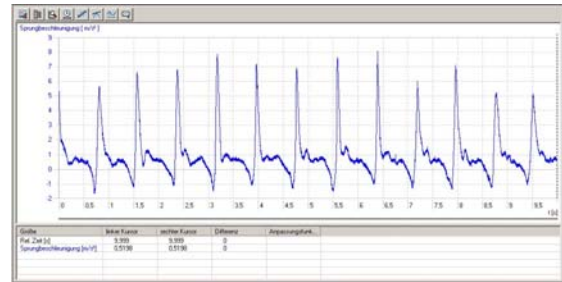

Fig. 1 Typical acceleration behaviour at the ankle of a skipping person, recorded with the 3B NETlab™ (U11310)
- Simultaneously start the recording of an experimental data curve in 3B NETlab™ (Fig. 1).
In Figure 1 it can be seen that, in addition to the skipping acceleration signal, there is a constant gravitational acceleration of 9.81 m/s^2 , resulting in a background value of $1g$.